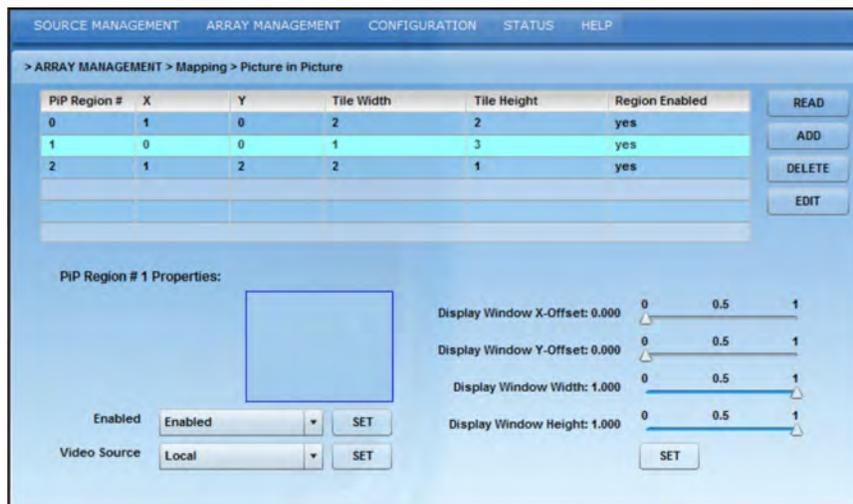

Figure 3-24 Editing PIP
1. To edit an existing PIP region select the region from the chart and click **Edit (Figure 3-24)**.
4. The Video Source for the PIP region can be defined from the **Video Source** drop-down menu (**Figure 3-24**). Select from **No Video**, **Main**, **Local**, and **Main or Local**. **NOTE:** *When both Main and Local video are present the software selects Main. This setting defaults to Local.*